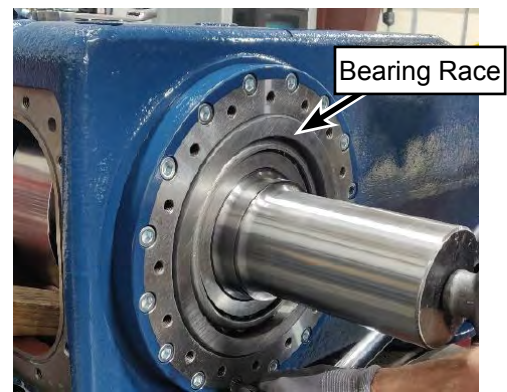

Figure 175: Install Bearing Race into Pump Frame
11. Keeping the crankshaft supported with the crane, tap the drivers end side bearing race into the pump frame with a rubber mallet until flush with the outside of the case. (Figure 175)